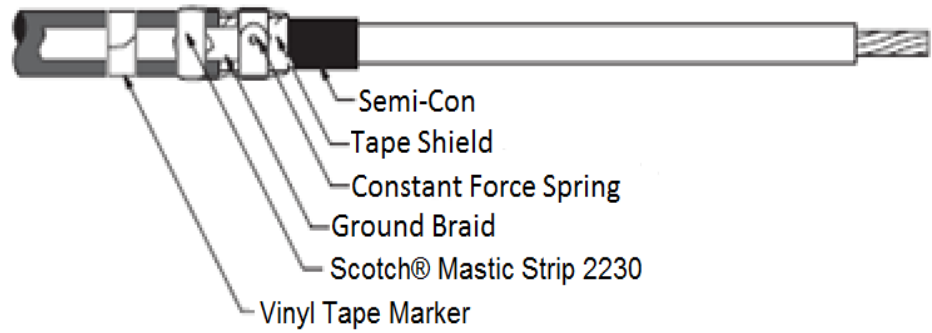

Figure 1
2. Apply bottom mastic seal. (*Figure 1*)